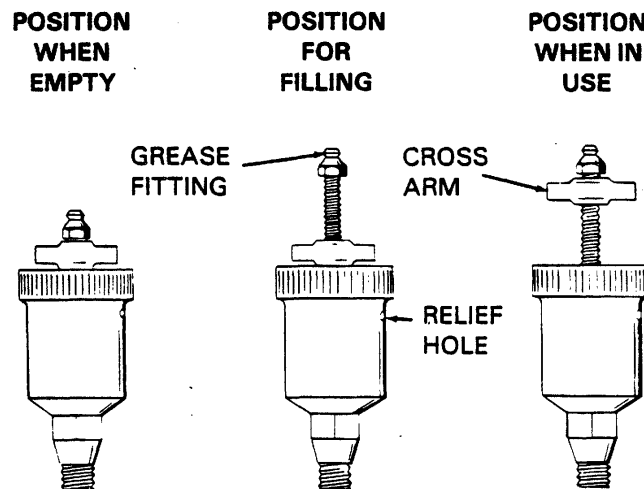

Figure 4. Automatic Lubricating Grease Cup
Before attempting to remove the impeller (2), turn the cross arm on the automatic lubricating grease cup (7) clockwise until it rests against the cover (see Figure 4). This will prevent the grease in the cup from escaping when the impeller is removed.
Fill the grease cup (7) through the grease fitting with No. 2 lithium base grease until grease escapes from the relief hole. Turn the grease cup arm counterclockwise until it is at the top of the stem; this will release the spring to apply grease to the seal (see Figure 4).